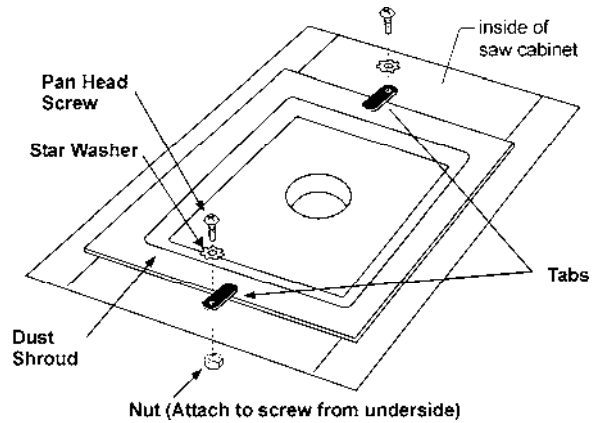

Figure 24
1. From under the saw, position the dust shroud at an angle to go through the opening between the stand and the saw. Set the lip of the shroud to sit on the top side of the stand as shown in Figure 24.